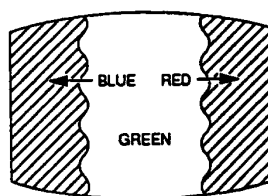

Fig.3-3.
5. Move the deflection yoke backward and adjust with the purity magnet so that the green is at the center and it aligns symmetrically. (See Fig.3-3.)